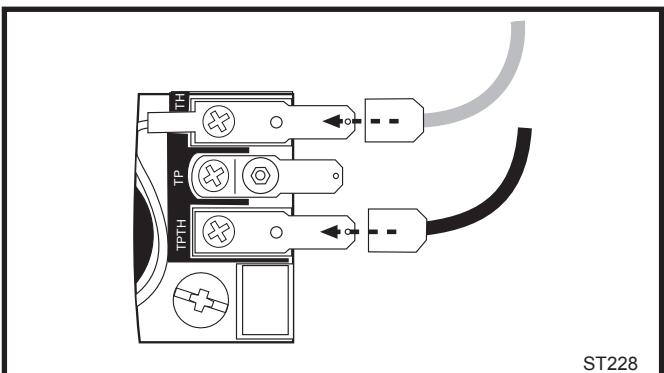

Fig. 17 Attach switch wires to valve.
- Attach wires to valve terminals. (Fig. 17)
- Connect the thermostat wires to the valve. (Fig. 17)